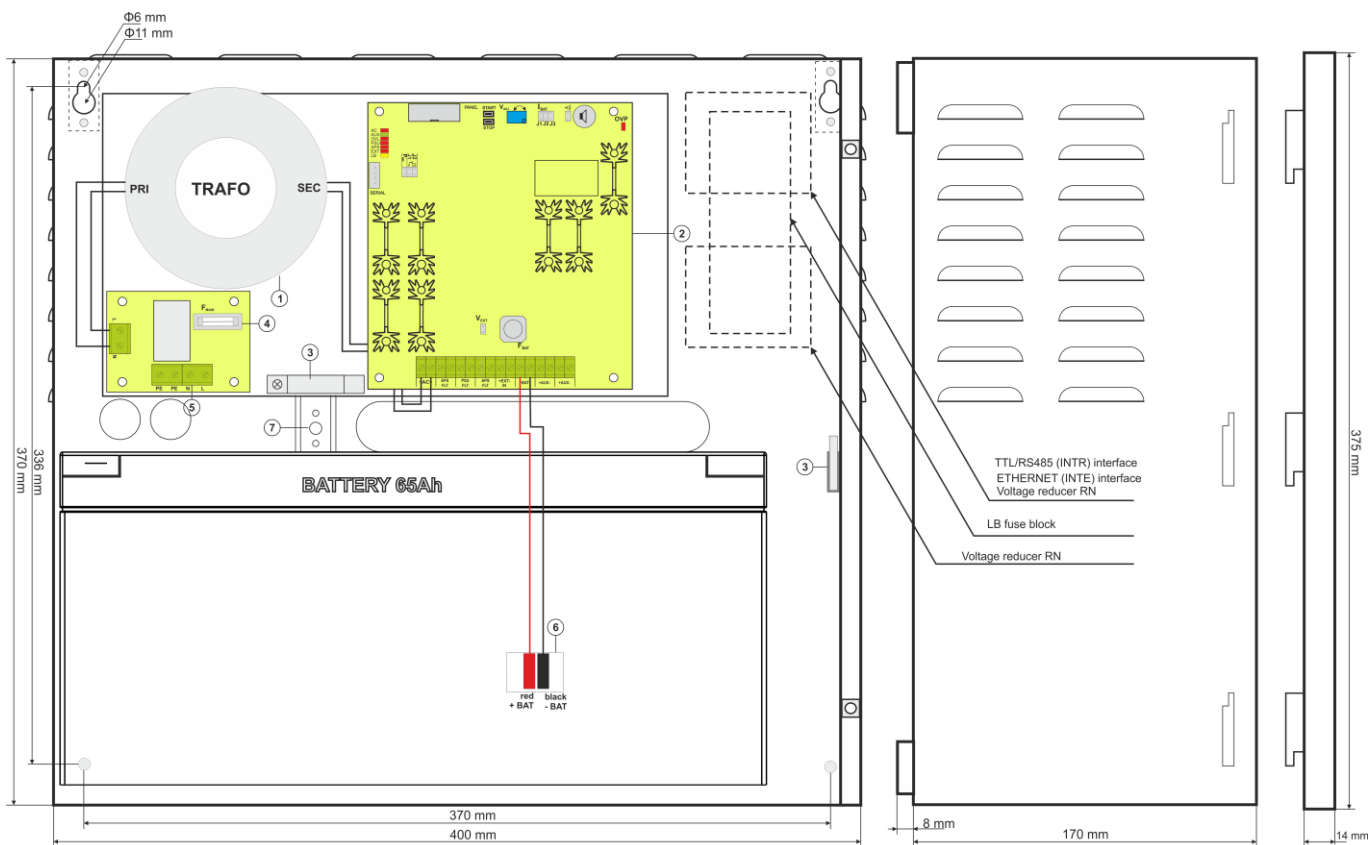

Fig.3. The view of the PSU.
Table 2. PSU elements (see fig. 3).
1. Mount the PSU in a selected location. It is particularly important to bolt the tamper grip to the mounting surface. The grip is located in the central part of the enclosure (see fig. 3 [7]) and guarantees indication in case of any attempts of detaching the device from the mounting surface. Proper installation is one of the requirements of the EN 50131-6 standard.